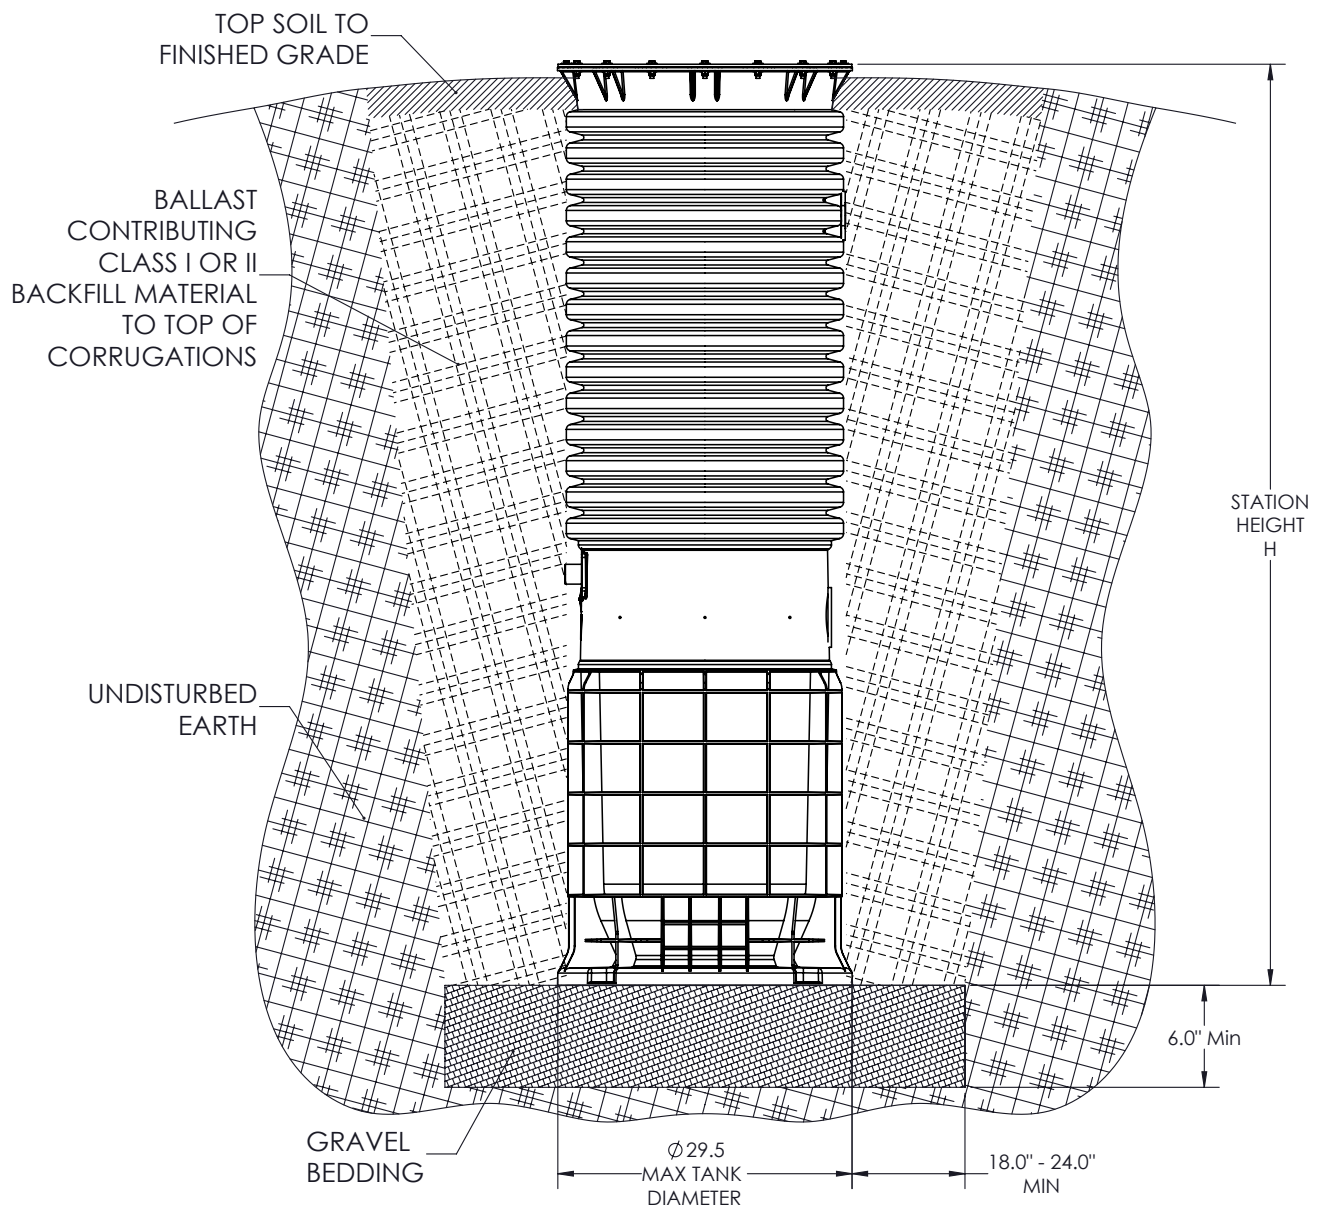

Figure 8
The tank is supplied with a standard 4-inch PVC DWV (4.50" outside dia.) inlet grommet for connecting the incoming sewer drain. Do not drop, roll or lay the tank on its side. Doing so may damage the unit and void the warranty. Excavate a hole to a depth so the removable cover extends above the finished grade line; the grade should slope away from the unit. The diameter of the hole must be large enough to allow for appropriate bedding and backfill installation (Fig. 8). Place the unit on a 6-inch bed of gravel, naturally rounded aggregate, clean and free-flowing, with particle size not less than 1/8 inch or more than 3/4 inch in diameter. WH101F tanks that feature the Universal Wet Well do not require additional concrete anchor to prevent flotation in the presence of high ground water. WH101F tanks with a corrugated bottom section require alternative installation instructions that detail a concrete anchor for ballast. Contact your local E/One distributor for assistance.
**5. BACKFILL REQUIREMENTS (Fig. 8): Proper backfill is essential** to the long term reliability of any underground structure. Several methods of backfill are available to produce favorable results with different native soil conditions.
Unique to the E/One models DH071 and WH101 (including the WH101F) incorporating an injection molded Universal Wet Well, the bottom flange of the tank is designed to capture a suitable column of backfilled soil to resist the upward buoyant force. The weight of the backfill soil along with the soil shear resistance of the soil can retain the tank in the ground – when properly installed in suitable soil conditions. See figure 8 for proper tank burial.